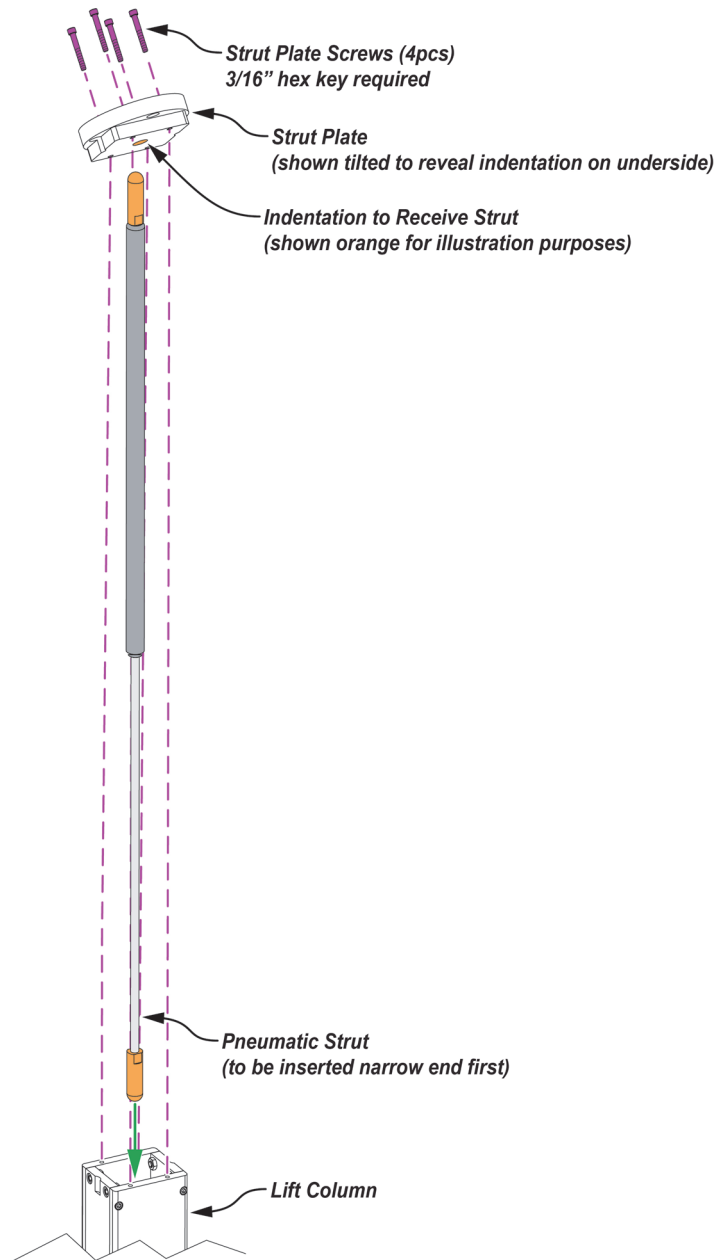

Figure 19 - Inserting the Pneumatic Strut (narrow end first)
9. Insert the new strut into the lift column, narrow end first, as shown in **Figure 19**.